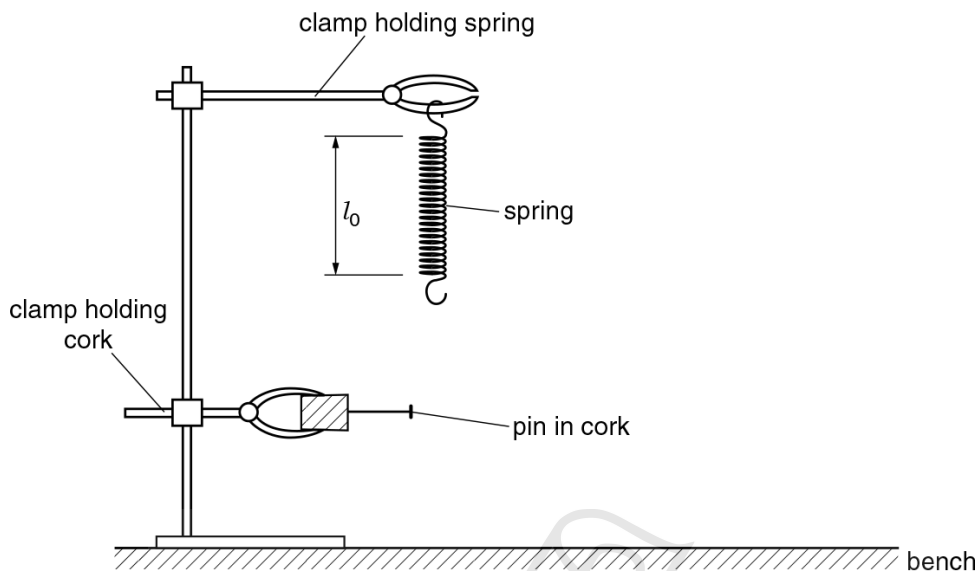

Fig. 1.1
Fig. 1.1 shows the apparatus
- (a) On Fig. 1.1, measure the length l_0 of the unstretched spring, in mm.